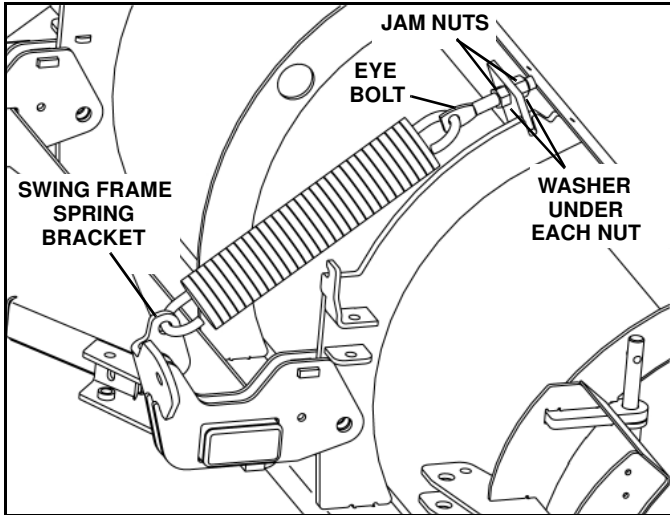

Figure 2-5
- c. **26R SERIES BLADE:** Remove the springs from the power pack carton. Hook springs onto swing frame thru the inside hole of the spring bracket. (See Figure 2-5).
- d. Install a nut and washer on the eye bolt until nut is fully seated and hook the bolt onto the free end of the spring. Insert the eyebolt into the hole in the spring bracket on each side of the blade. Loosely install a second washer and nut on the eye bolt.. (See Figure 2-5).